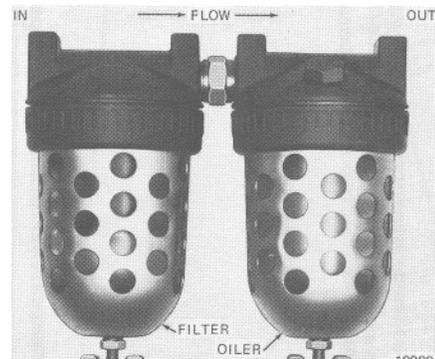

Figure 2-3. Air Filter and Lubricator Unit.
- c. A filter and lubricator unit (Figure 2-3) must be installed between air source and air hose leading to hoist. These keep air flowing to hoist free of dirt and add lubricant to air so internal parts of motor are constantly lubricated. Use Air Hoist Motor Oil or good grade 10W machine oil (approximately viscosity 150 SSU at 100°F.). Multi-viscosity, detergent type engine oil is not recommended. Feed one drop of oil for every 50 to 75 cubic feet of air going through the air motor.